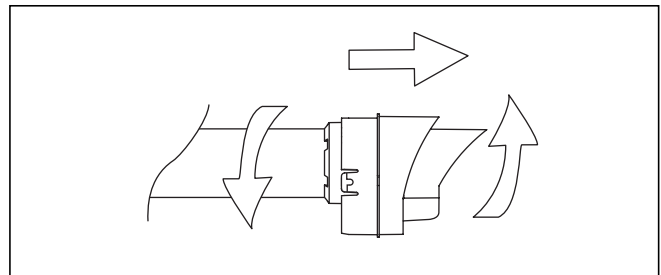

Fig. 2.27 Unlocking the catch
- Unlock the catch between the terminal and the flue duct by twisting them against each other (fig. 2.27).